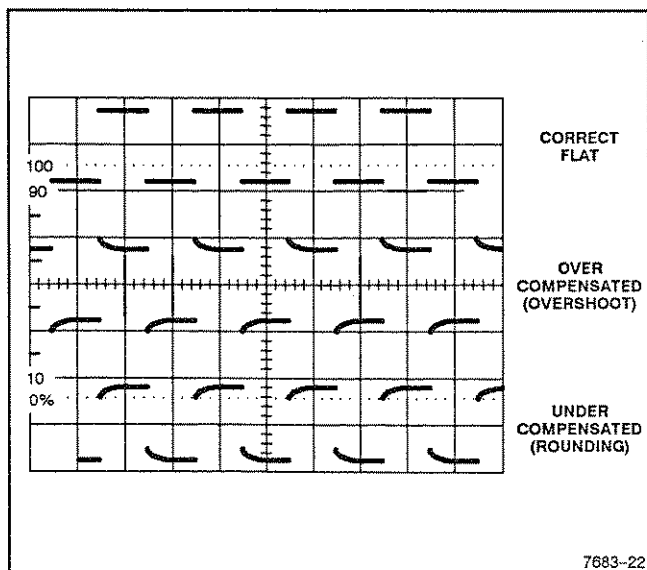

Figure 2-9. Probe compensation.
5. Check the waveform display for overshoot and rolloff (see Figure 2-9). If necessary adjust the probe compensation for flat tops on the waveforms. Refer to the instructions supplied with probe for details of compensation adjustment.
9. Check the waveform display for overshoot and rolloff (see Figure 2-9). If necessary adjust the probe compensation for flat tops on the waveforms. Refer to the instructions supplied with probe for details of compensation adjustment.